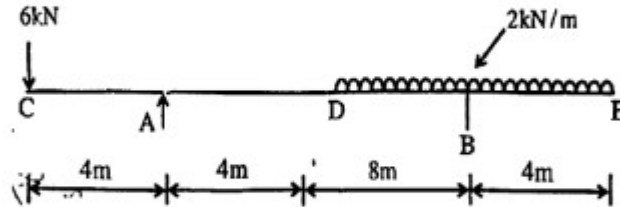

Fig.2
- Q.4 Draw the bending moment and shear force distribution diagrams for the beam shown in fig. 2. Indicate the values of S.F. and B.M at all critical locations. Also give the value of maximum shear force and maximum +Ve and -Ve bending moments and their locations. Determine the points of contraflexure.